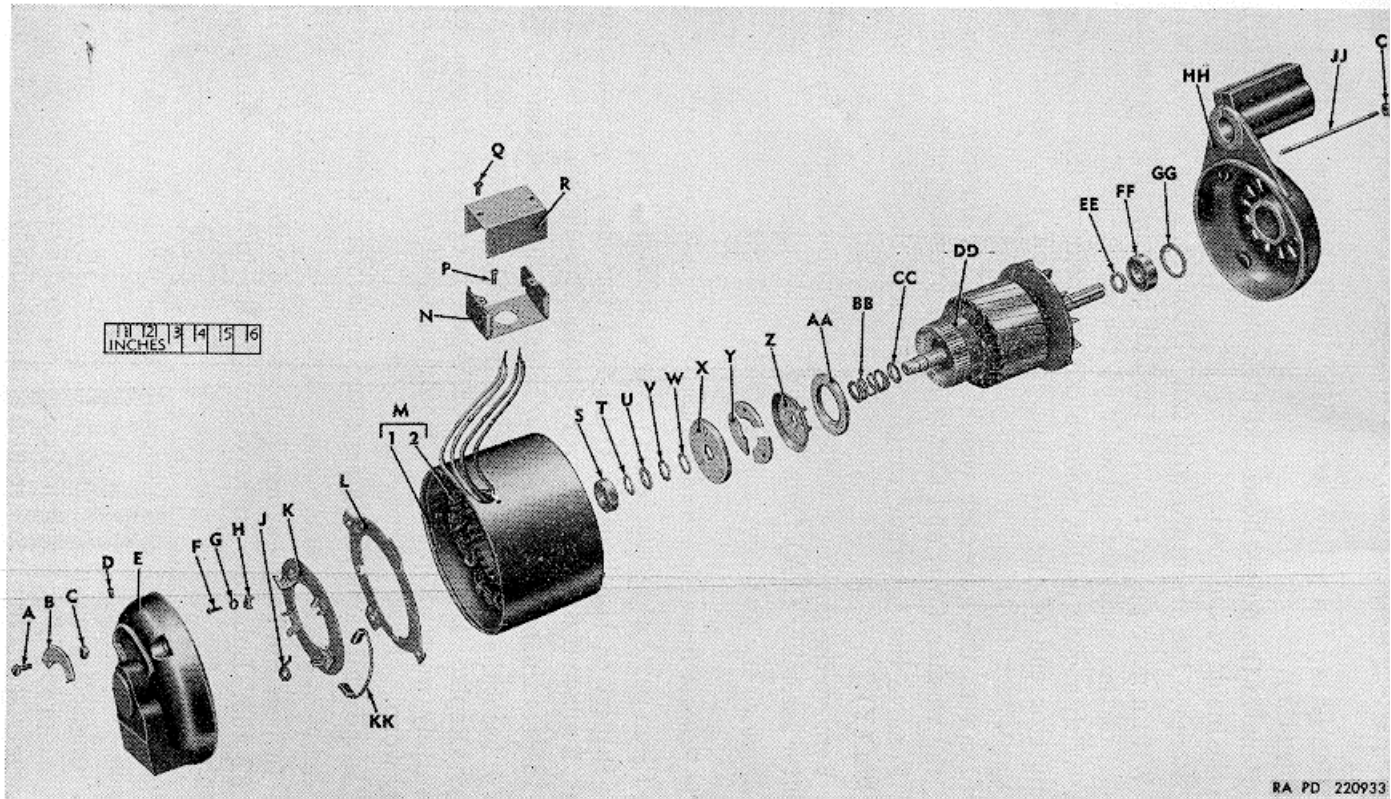

Figure 13. Motor-PEL-H16B-Model R-1050--exploded view.
- h.* Inspect armature with fan (DD, fig. 13) to make sure all coils are properly pressed into core slots and are soldered to commutator risers. Replace armature if windings are loose or unsoldered at the commutator.